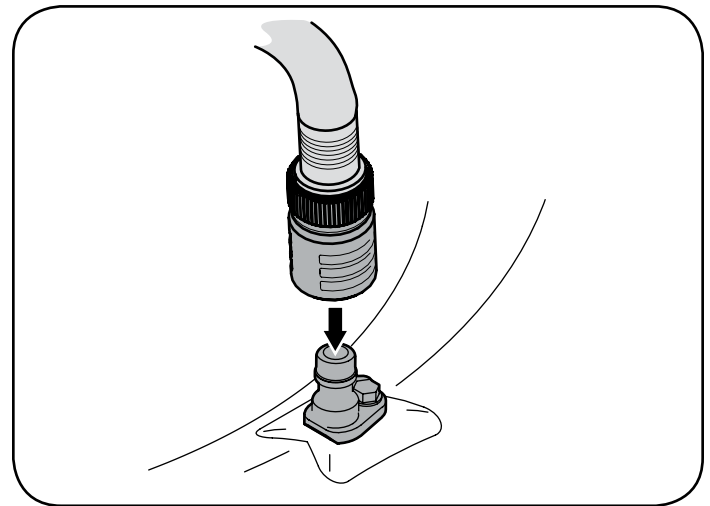

Figure 44
4. Attach the hose coupler to the water port on your deck's surface. See Figure 44.